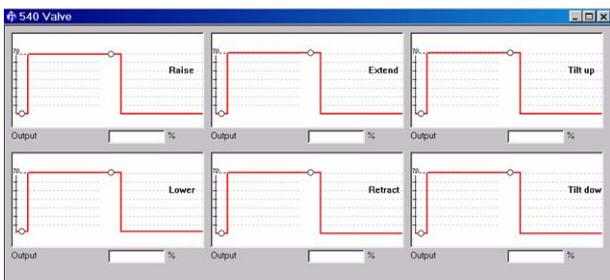

Fig 17.
- 1 Open the '540 Valve' window. The settings must be at 70%. If necessary re-set to 70%. → Fig 17. \(□ 21\)